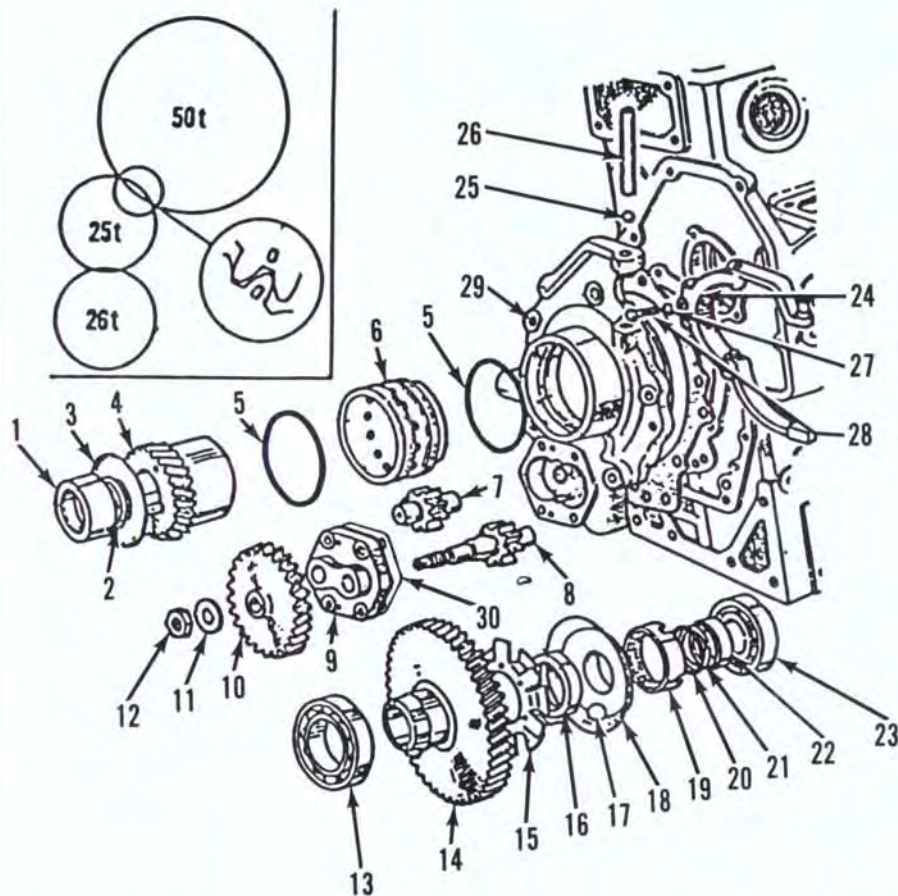

Fig. 27—Exploded view of timing gears and associated parts used on Model L210. Inset shows timing marks correctly aligned.
24. Refer to Fig. 27 for an exploded view of timing gears and associated parts. Normal backlash between crankshaft gear and camshaft gear is 0.07-0.15 mm (0.003-0.006 inch).
Camshaft gear (14—Fig. 27) is a light press fit on shaft and straddle-mounted ball bearings carry camshaft gear load. Camshaft gear also carries governor weights and drives hydraulic system pump through a coupling machined into camshaft gear hub.
Refer to appropriate service sections for overhaul data of governor unit, oil system and checking of lubricant pressure. When installing gears, make sure "O" marks on camshaft and crankshaft gears are aligned as shown in inset, Fig. 27.